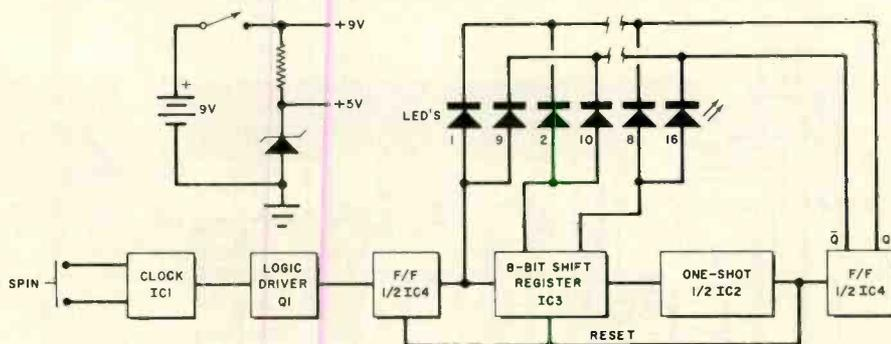

Fig. 1. Pressing the SPIN button starts the clock oscillator.
**Circuit Operation.** As shown in Fig. 1, a clock oscillator (IC1) operates at
**About the Circuit.** A voltage-sensing circuit that operates a relay, causing it to switch a transformer in and out of the ac line is the heart of the Power Guard (see Fig. 1). The sensing circuit is made up of the voltage divider formed by *R1* and *R2*, neon lamp *I1*, and silicon controlled rectifier *SCR1*.